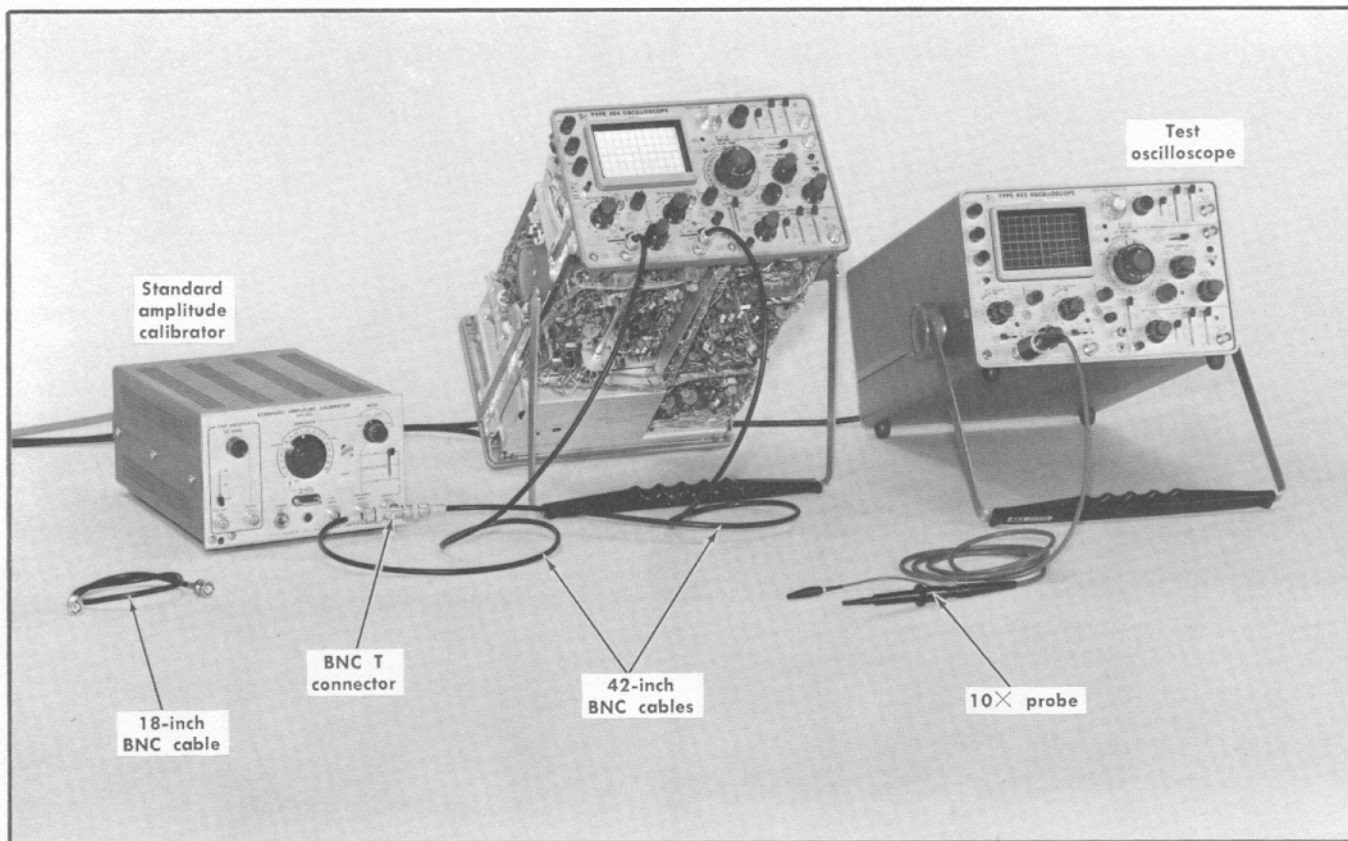

Fig. 6-18. Initial test equipment setup for steps 15 through 23.
①
a. Test equipment setup is shown in Fig. 6-18.